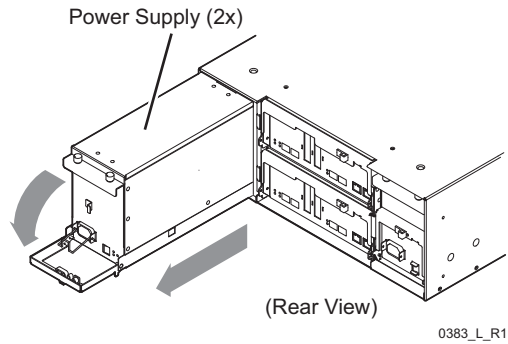

Figure 18-3. Lowering the Lever to Slide Out the Power Supply
- 9 Using the lever, carefully remove the power supply from the chassis while supporting the base with your other hand (Figure 18-3).